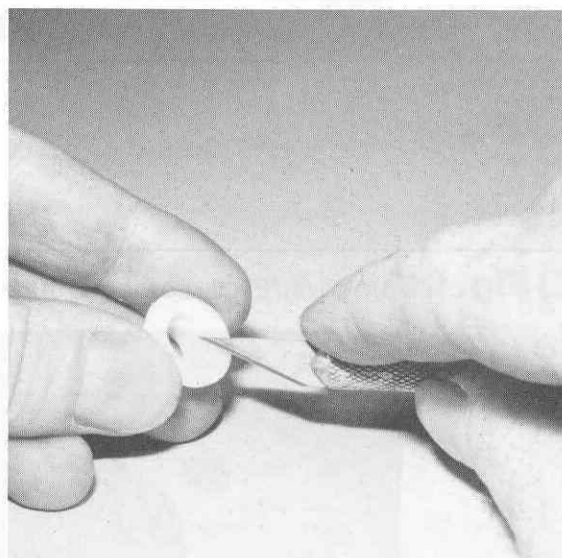

Fig. 87
- ☐ **Fig. 87** Take the other bearing adaptor and cut a small notch in the edge, as shown. This will make installing and removing the "E" clip a lot easier.